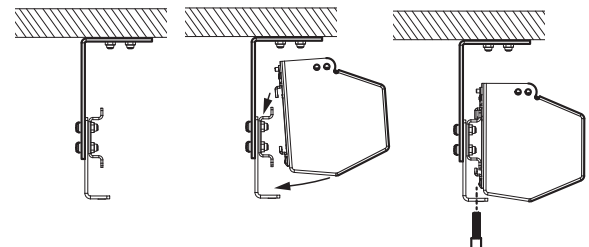

Figure 4
- ⑦ Attach Case Attachment Brackets to front brackets using 10-32 x 1/2" PPH Zinc Machine Screws (provided).
- ⑧ Mount screen case to wall brackets by slightly angling the upper slots on the Case Attachment Brackets into the upper channel on the Sliding Wall Brackets, then rotating screen case into place (see Fig. 4).
- ⑨ Once the screen is placed in the desired position, secure screen case to Sliding Wall Brackets using #10-32 x 1" Pan Head Screws (provided) (see Fig. 4).